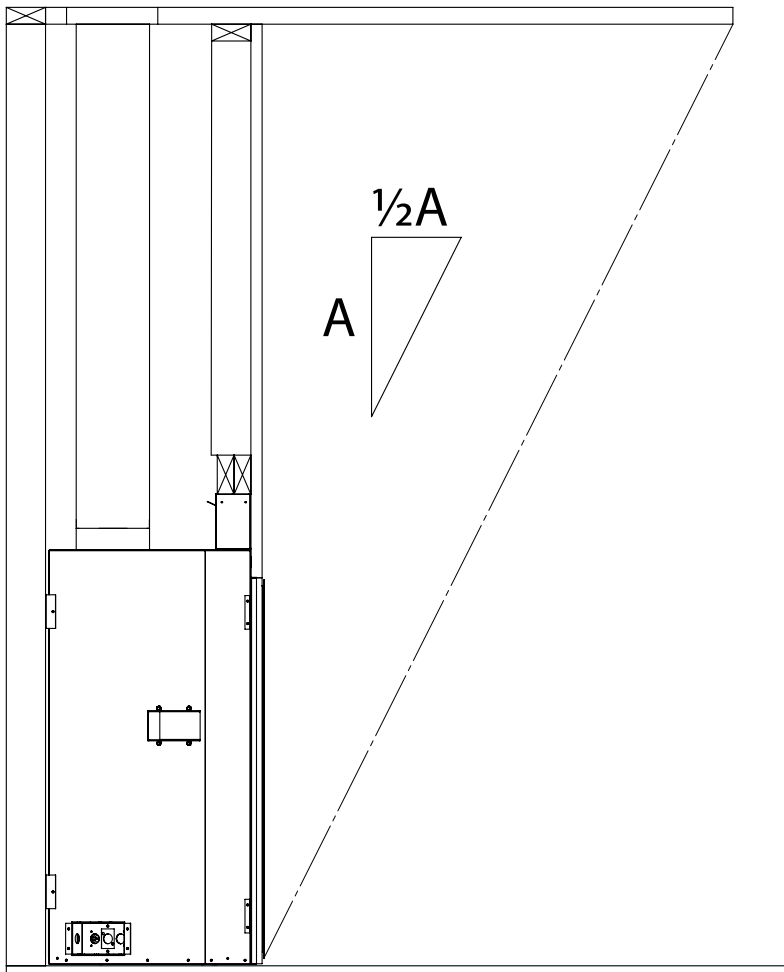

Figure 33: Overhang Depth Requirements
- The fireplace must be protected by an overhang with a depth that is at least equal to half of its height from the base of the fireplace, as shown in Figure 33.